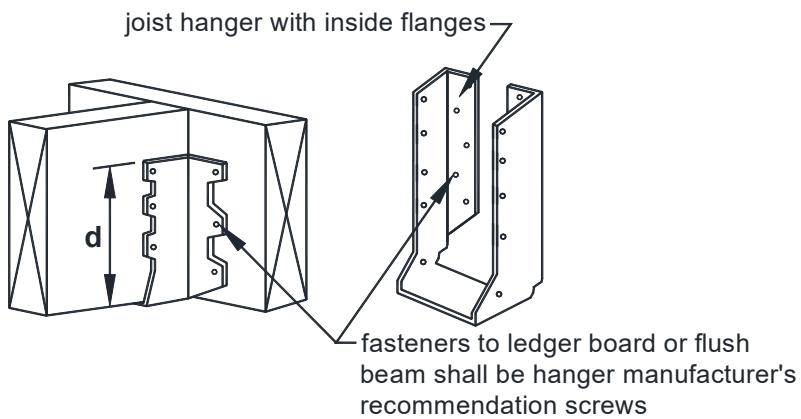

FIGURE 11: JOIST HANGERS
- Joist hanger depth, d , as shown in FIGURE 11, shall be greater than or equal to 60 percent of the joist depth.